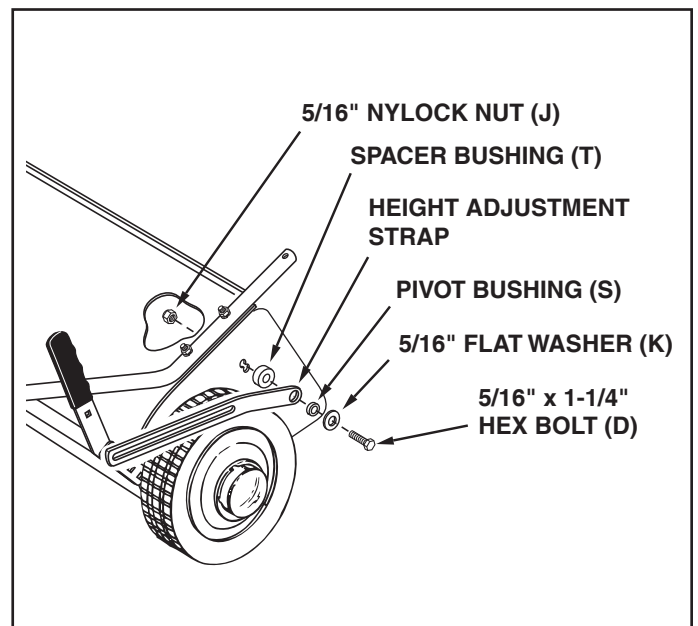

FIGURE 9
STEP 8: (SEE FIGURE 9)
- Assemble onto a 5/16" x 1-1/4" hex bolt (D) in the order listed, a 5/16" flat washer (K), the pivot bushing (S), the height adjustment strap and the spacer bushing (T). Insert the bolt through the upper part of the double hole in the end of the sweeper housing and secure it with a 5/16" nylock nut (J). **Tighten.**